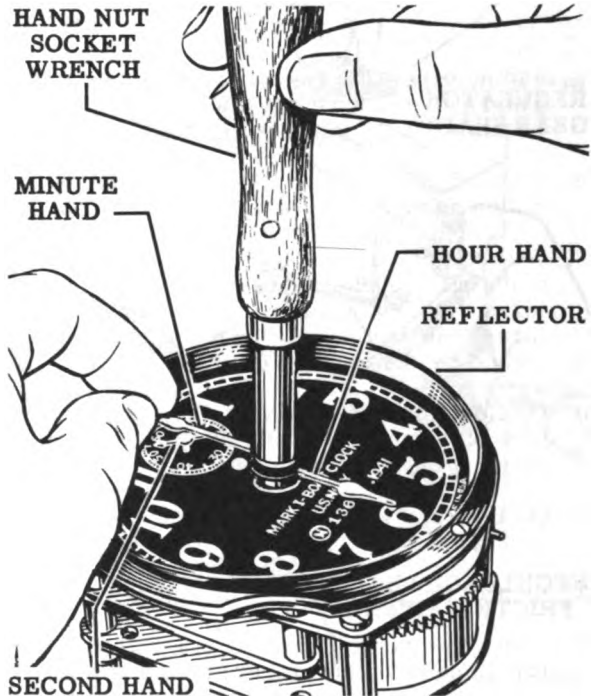

Figure 113—Boat and Deck Clock
- A. See Fig. 113 for replacing the hands on Boat and Deck Clock movements with the special socket wrench, Tool No. 4A.